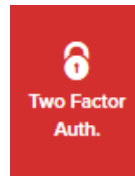

Figure 11. Partner Portal (Two Factor Auth. icon)
4. Click the **Two Factor Auth.** link on the left-hand side of the web page (Figure 11 \(page 45\)).